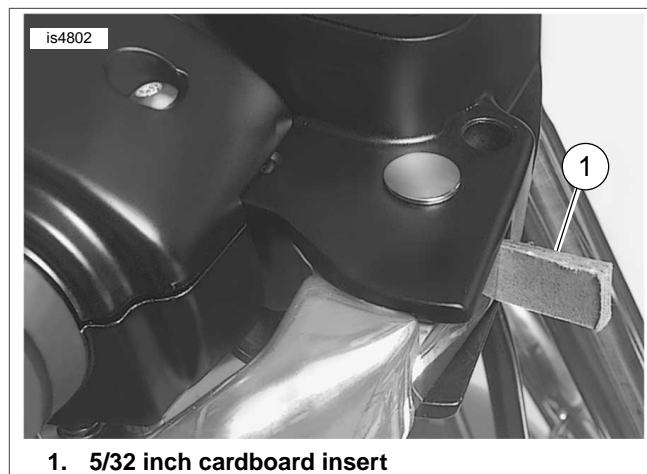

Figure 4. Install Cardboard Insert
1. See Figure 4. Place a 5/32 inch cardboard insert between the brake lever and lever bracket.